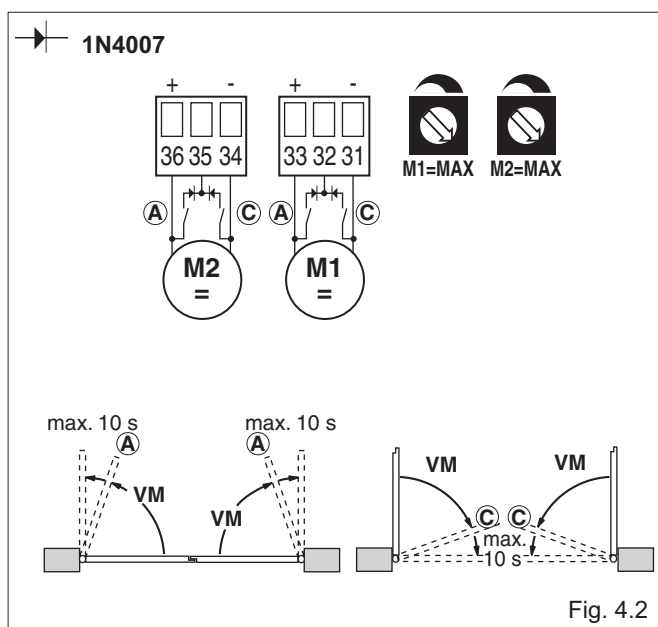

Fig. 4.2
- (Fig. 4.2) **Use with slow down limit switch.**